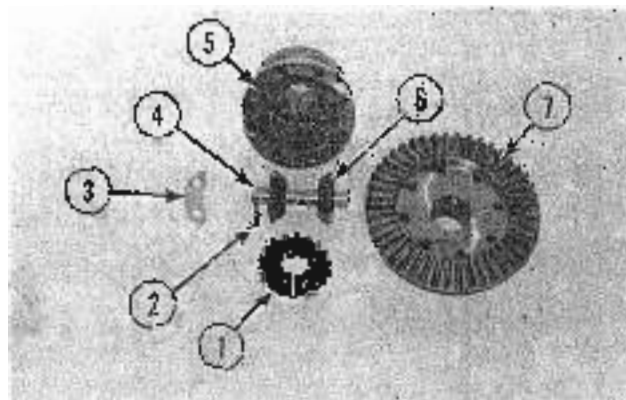

FIG. 2
Figure 2 identifies the parts of the front and rear ring gear and differential carrier sub-assembly.
- (1, Fig. 2) Planetary gears.
- (2, Fig. 2) Retaining pin.
- (3, Fig. 2) Locking plate.
- (4, Fig. 2) Cross pin.
- (5, Fig. 2) Differential carrier.
- (6, Fig. 2) Satellite gears.
- (7, Fig. 2) Ring gear.
Remove the planetary gears (1, Fig. 2) from the ring gear (7, Fig. 2) and carrier, (5, Fig. 2) pull the retaining pin (2, Fig. 2) from the face of the carrier, tap out the cross pin (4, Fig. 2) and remove the (2) satellite gears (6, Fig. 2).